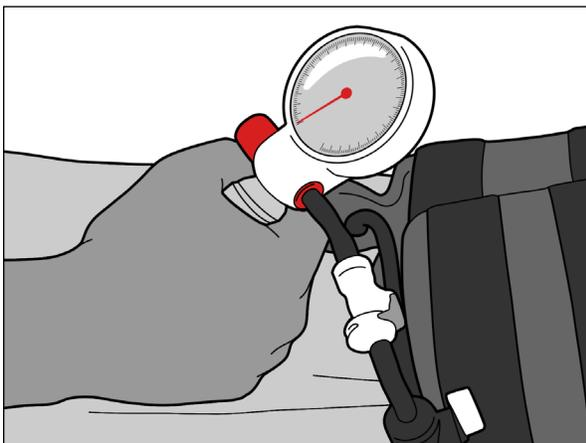

Fig. 19
6. Inflate the bladder to desired pressure by squeezing the bulb repeatedly (Fig. 19).